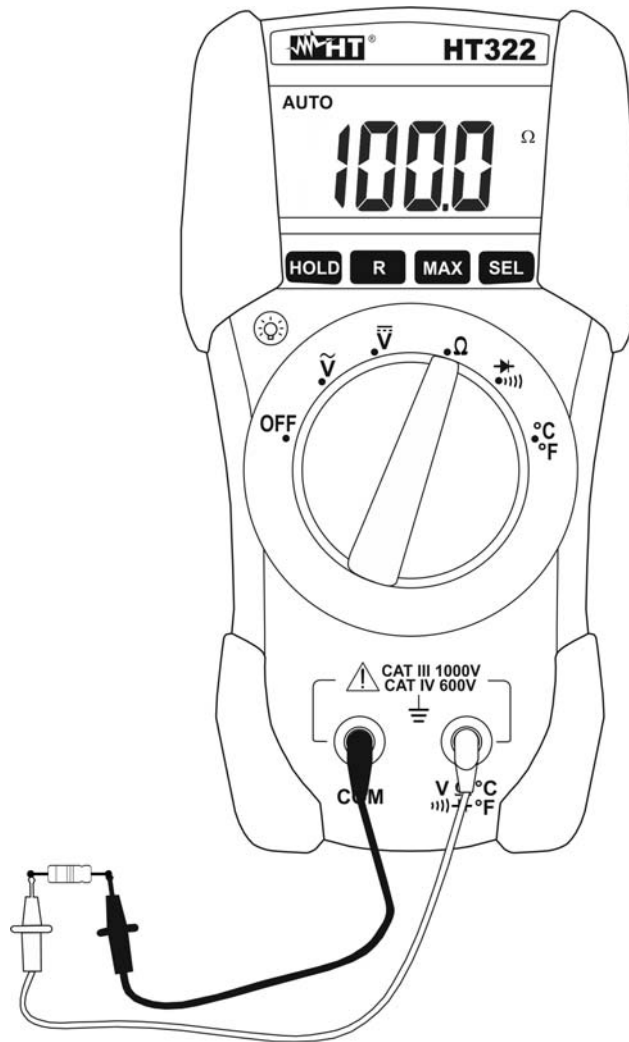

Fig. 4: Using the instrument for Resistance measurement
7. Connect the test leads to the circuit under test (see Fig. 4)